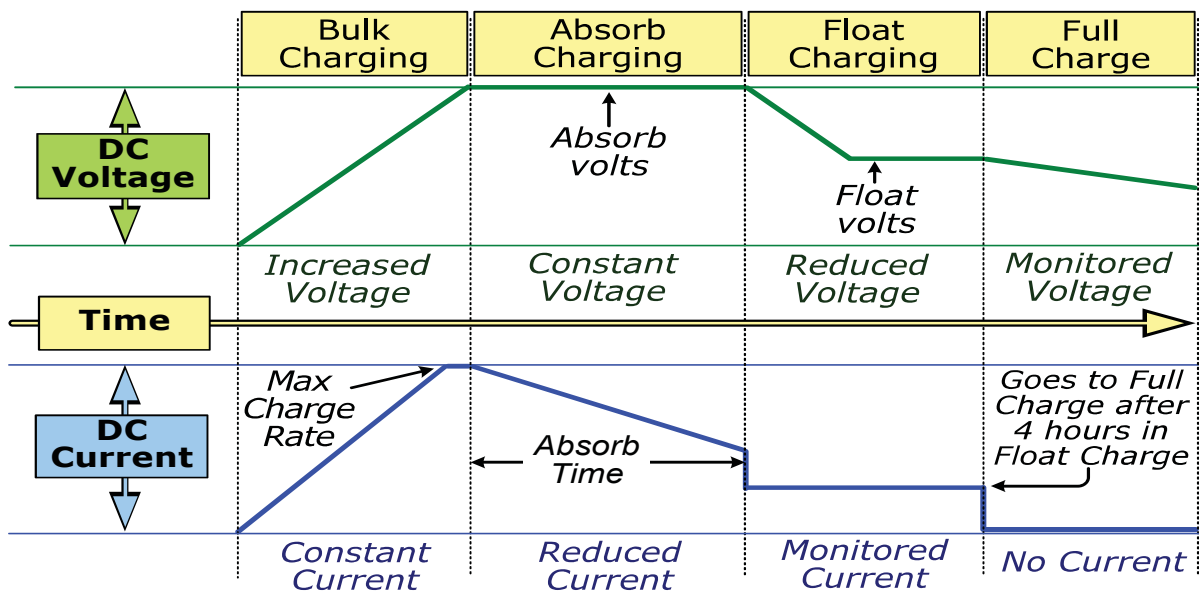

Figure 3-3, Automatic 4-Stage Charging Graph
The multi-stage charger in the ME Series can use up to five different charging stages to help monitor and keep the batteries healthy. The five stages include an automatic 4-stage charging process (see Figure 3-3)—Bulk, Absorb, Float, and Full Charge—and a manual Equalization (EQ) charge stage. The automatic 4-stage charge process provides complete recharging and monitoring of the batteries without damage due to overcharging. The EQ stage (requires a remote control to enable) can be used to stir up stratified electrolyte and to reverse any battery plate sulfation that may have occurred—if recommended by your battery's manufacturer.
The Charge mode provides up to four separate charging stages: Bulk Charging, Absorb Charging, Float Charging, and Full Charge (see Figure 3-3).